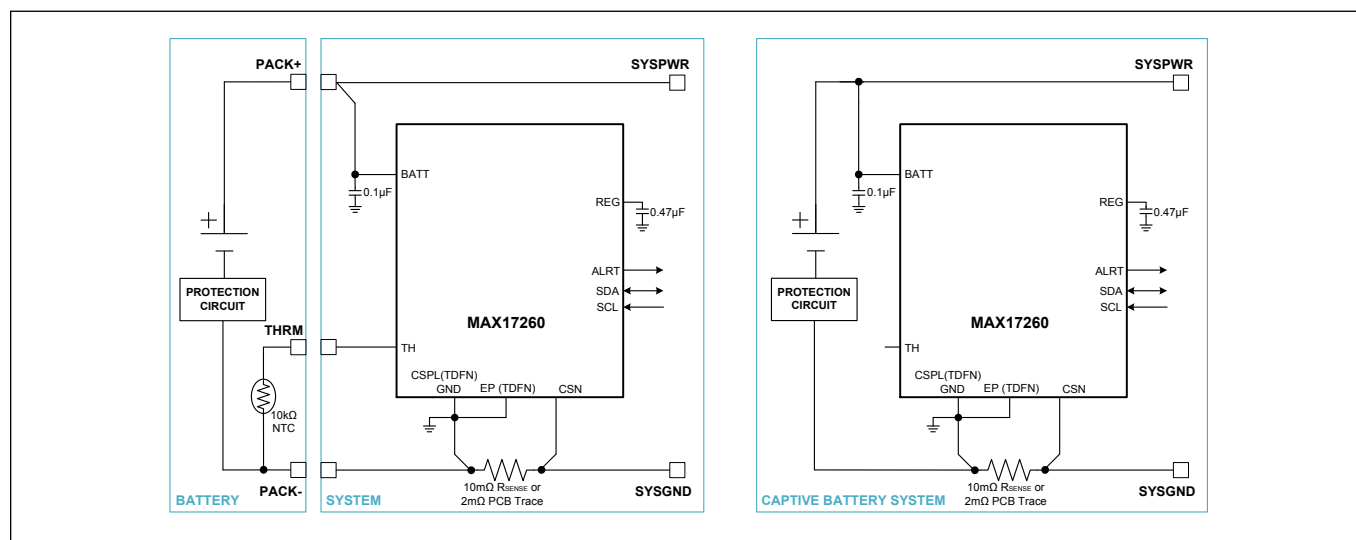

Figure 5. Low-Side Current Measurement Typical Applications Circuit
**Figure 5** shows a typical operating circuit for low-side current sensing. A sense resistor is typically used. Alternatively, a PCB trace can be used for high-current or small-form-factor applications. For better measurement, place the sensing element as close as possible to the CSN and GND pin. The IC automatically compensates for the effect of environmental temperature and trace heating on trace resistance.